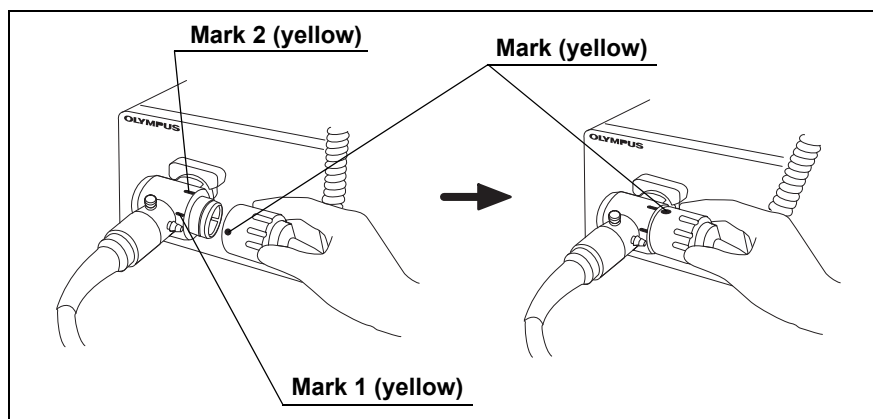

Figure 3.17
5. Align the mark on the videoscope cable EXERA or the videoscope cable 100 with mark 1 on the endoscope connector and push it in until it stops (see Figure 3.17).
6. Turn the connector of the videoscope cable clockwise until it stops (see Figure 3.17).